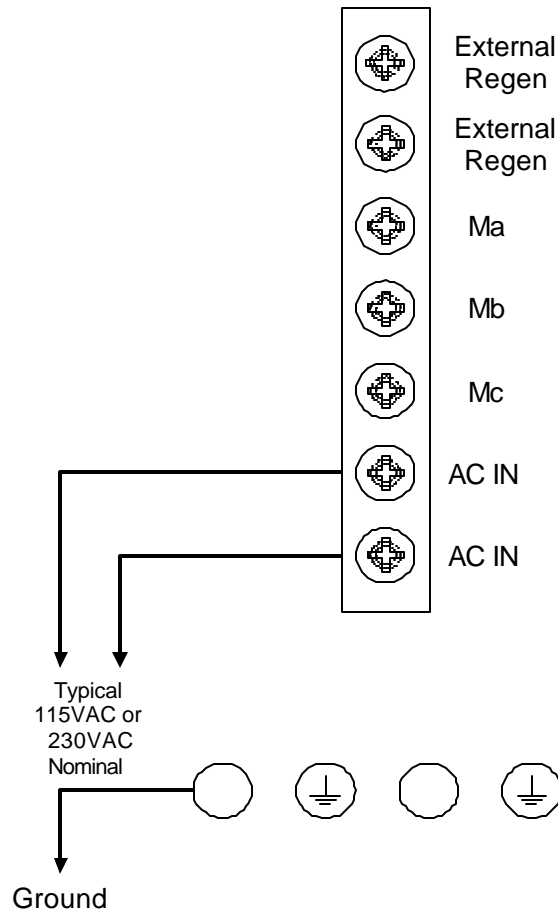

Figure 3.17
An external regenerative resistor can be connected to the 7 position terminal strip connection points marked external regen . Refer to Figure 3.5 item 18 and Figure 3.17. See the following example to determine if an external regenerative resistor is required.